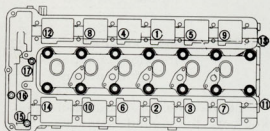

Fig.3-56 Cylinder Head Nuts Tightening Sequence Y5198
23. Position the washers, and tighten the cylinder head nuts a little at a time with a torque wrench in the sequence illustrated in figure 3-56. Finally tighten the three 8 mm bolt nuts to 1.5 ~ 2.2 m-k_g (11 ~ 16